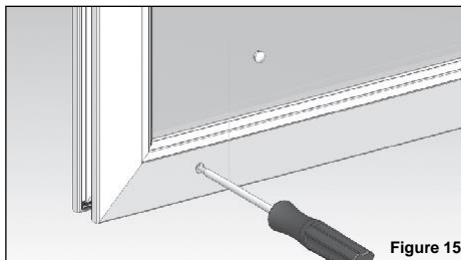

Figure 15
16. Adjust the panel rollers to the third position and check that the panel is square with the frame casing. Make any necessary adjustments and install the finishing “plugs” on the bottom rail (Figure 15).